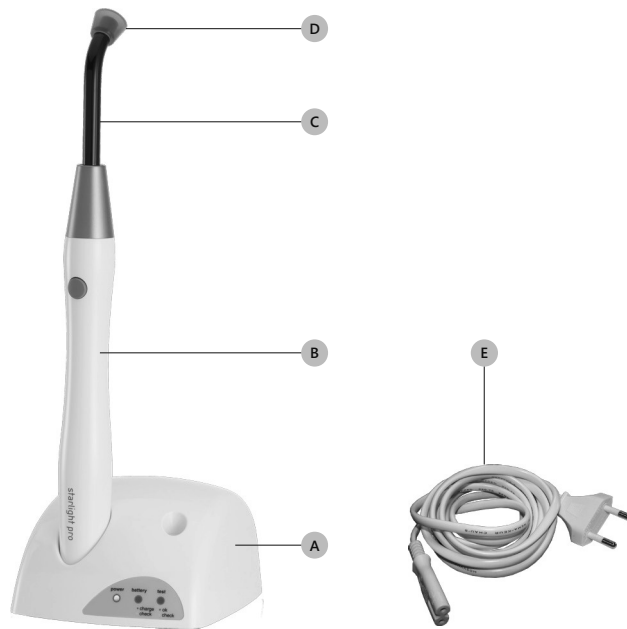
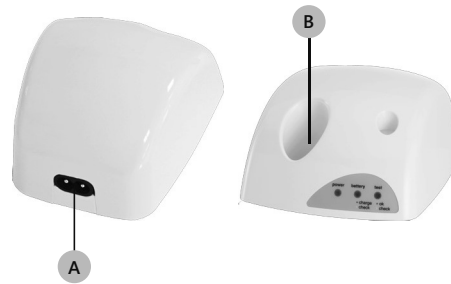

Figure 4 – List of Components
Figure 5 – Charging unit.
ⓘ CAUTION: Recharge the battery only with the Mectron charging unit (*Figure 4 at page 8 - Ref. A*). Do not attempt to recharge the battery using a generic battery charger. This entails a risk of explosion and fire.
Refer to Figure 4 at page 8:
⚠ WARNING: Do not introduce metal objects or the fingers into the handpiece housing in the charging unit (Figure 5 at page 10 - Ref. B) when the device is on.
2. Plug the power cable (Figure 4 at page 8 - Ref. F) into the connector on the back side of the charging unit (Figure 5 at page 10 - Ref. A) and then into the power outlet. The green power LED should light up (Table 1 at page 11 - Ref. A).
1. Place the handpiece into its housing in the charging unit (Figure 5 at page 10 - Ref. B).
ⓘ CAUTION: Recharge the battery only with the Mectron charging unit (Figure 4 at page 8 - Ref. A). Do not attempt to recharge the battery using a generic battery charger. This entails a risk of explosion and fire.